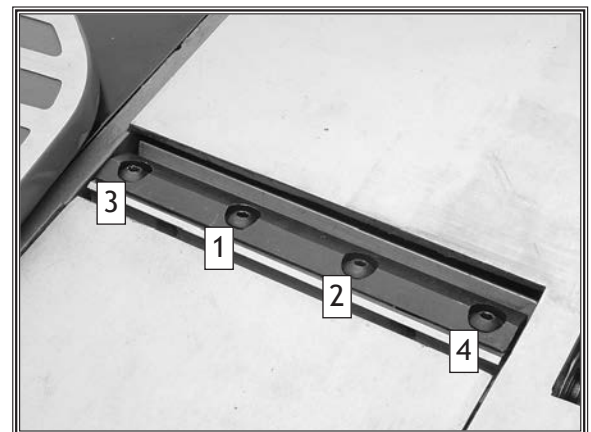

Figure 36. Knife clamp screw tightening sequence.
8. When knife heights are set correctly, fully tighten each of the knives' clamp screws according to the tightening sequence shown in **Figure 36**.